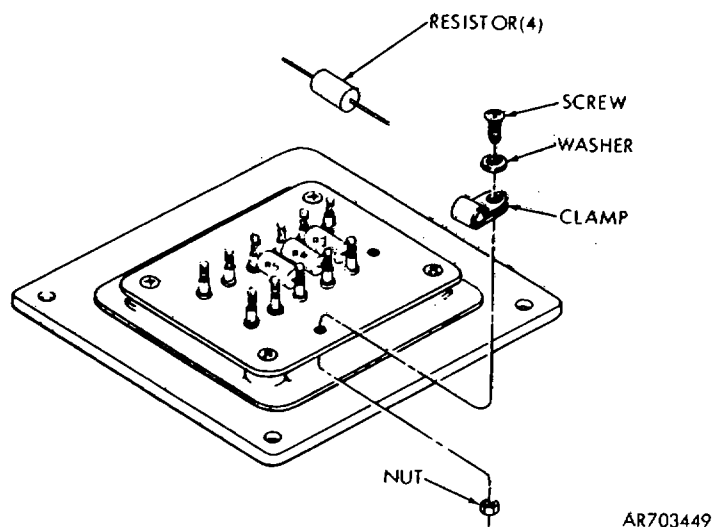

Figure 3-20. Repair of terminal board assembly (TB1).
(2) If necessary for access, remove screw, washer and nut (fig 3-20) securing harness retaining clamp to terminal board.
(3) Unsolder resistor or jumper wire, as necessary.
#### b. Assembly (Fig 3-20).